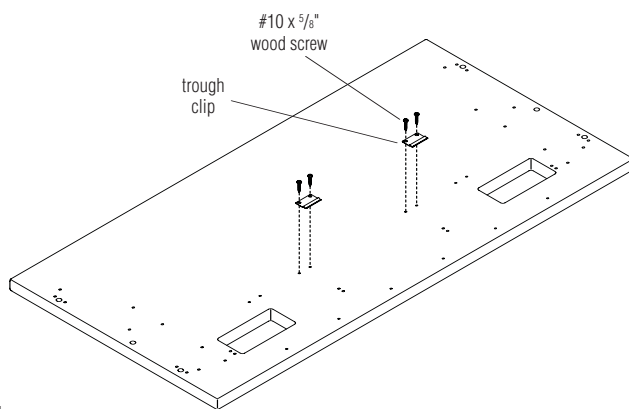

Figure 1
Note: On 24" wide tables step 2 (Figure 1) must be performed prior to assembling the table frame. On all other tables these steps may be performed after frame installation.
2. Attach trough clips to underside of worksurface using two #10 x 5/8" screws for each clip (Figure 1).